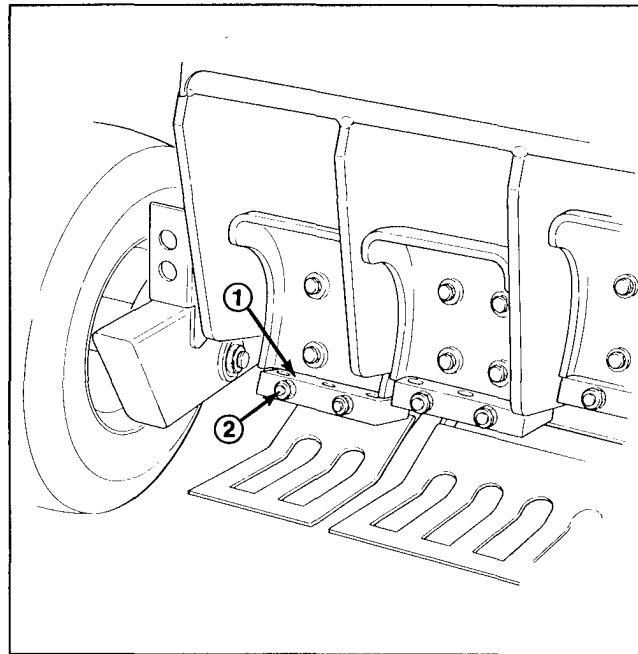

Figure 17
4. Loosen (2) hex nuts on each tine block until tines can be inserted. Insert tines until they bottom out on flange in tine block (Fig. 17).